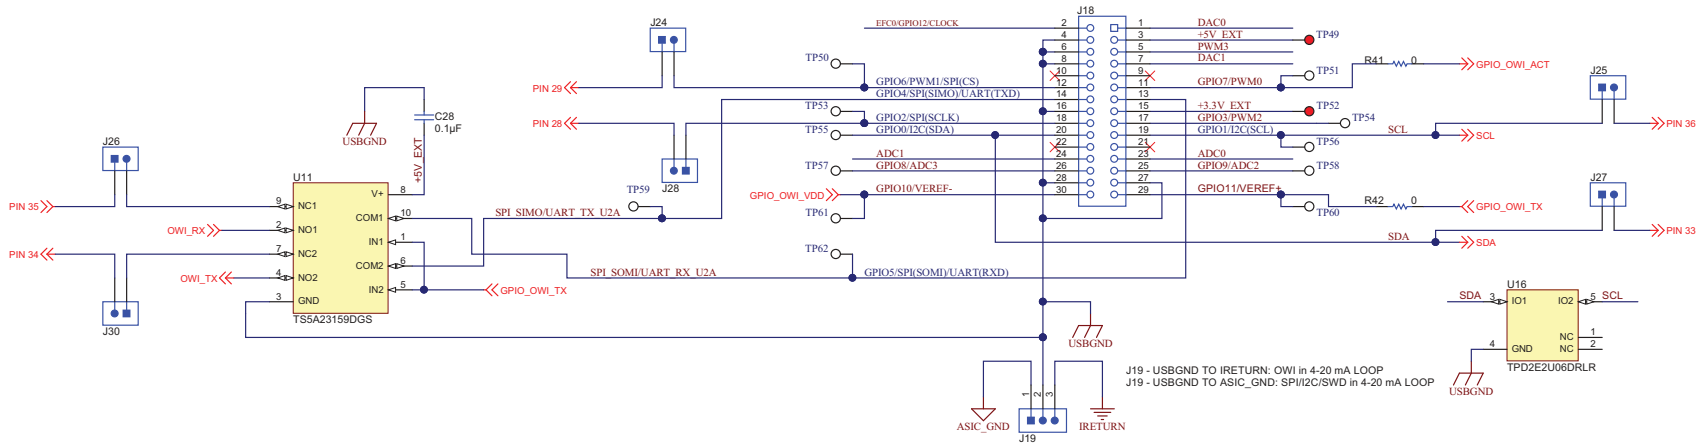

Figure 17. USB2ANY Schematic
- Updated designator for J19 in Figure 17 19